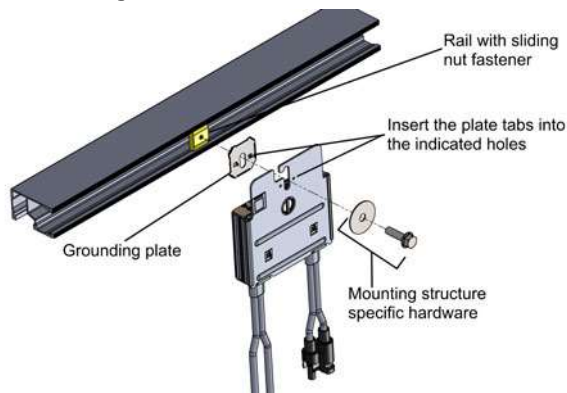

Figure 7: Power optimizer installation and grounding using a grounding plate
- For mounting on rails with sliding nut fasteners:** If the star washer cannot be used, use the SolarEdge grounding plate (purchased separately) between the railing and the flat side of the mounting bracket. Use mounting specific hardware as needed. Apply torque of 9.5 N*m / 7 lb*ft. See *Figure 7*.